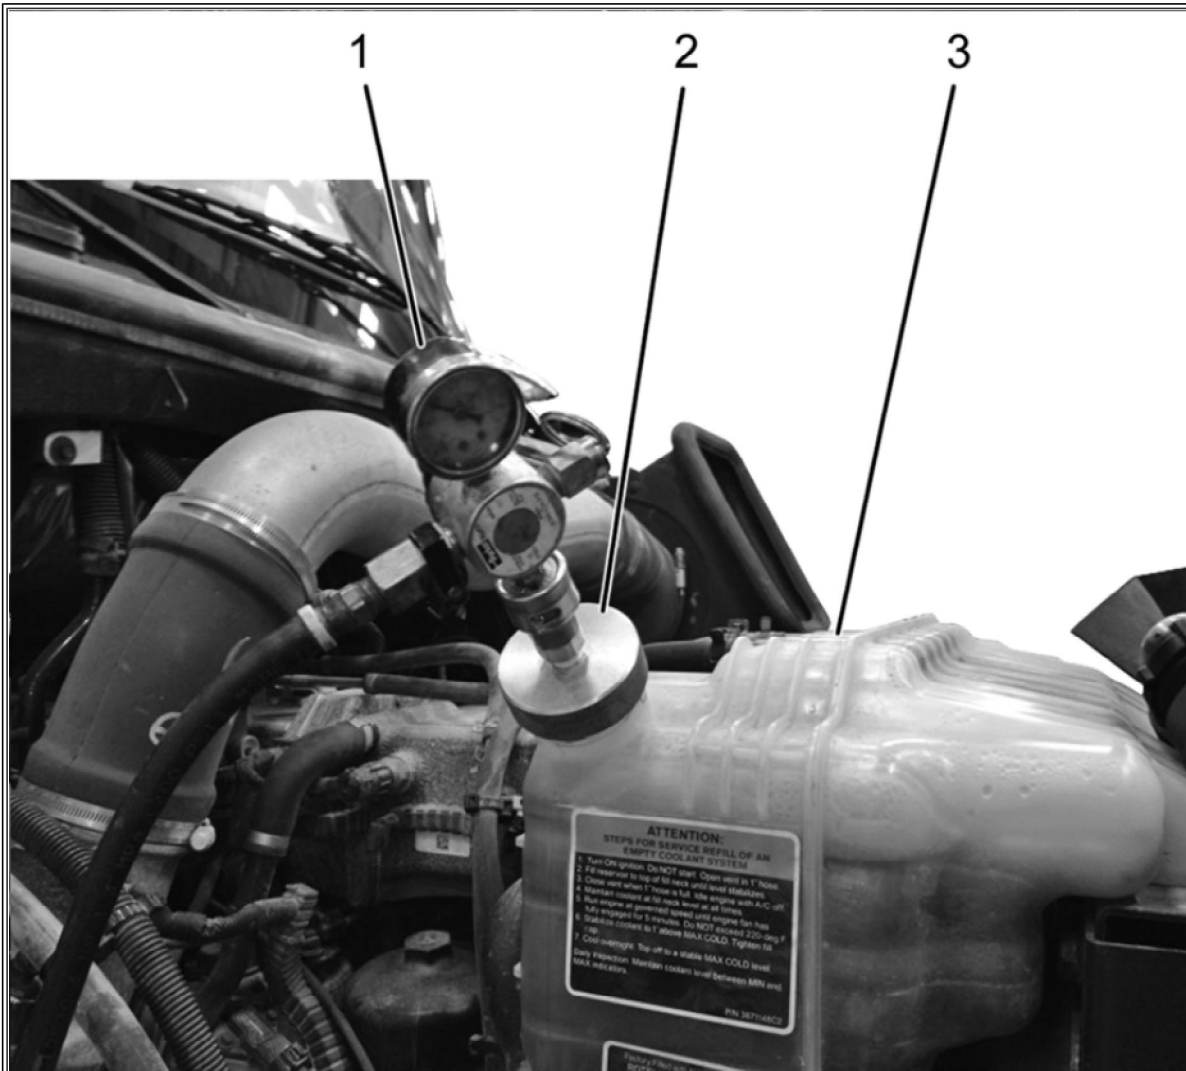

Figure 1: Deaeration Tank and Pressure Module
1. Install cap adapter (**Figure 1**, Item 2) and pressure module (**Figure 1**, Item 1) onto deaeration tank (**Figure 1**, Item 3)